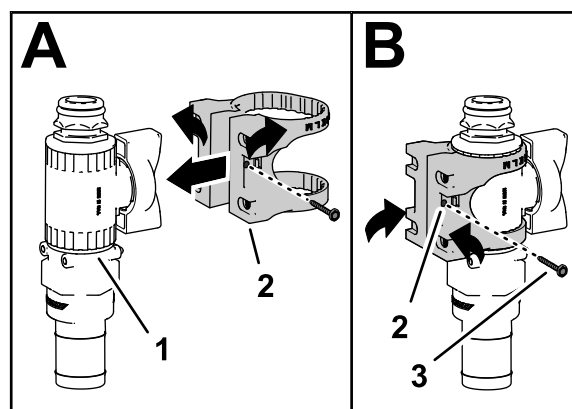

Figure 27
5. Assemble the valve mount onto the control valve as shown in A of Figure 27.
6. Secure the valve mount to the control valve with the flange-head screw (#6), and tighten the screw by hand (B of Figure 27).